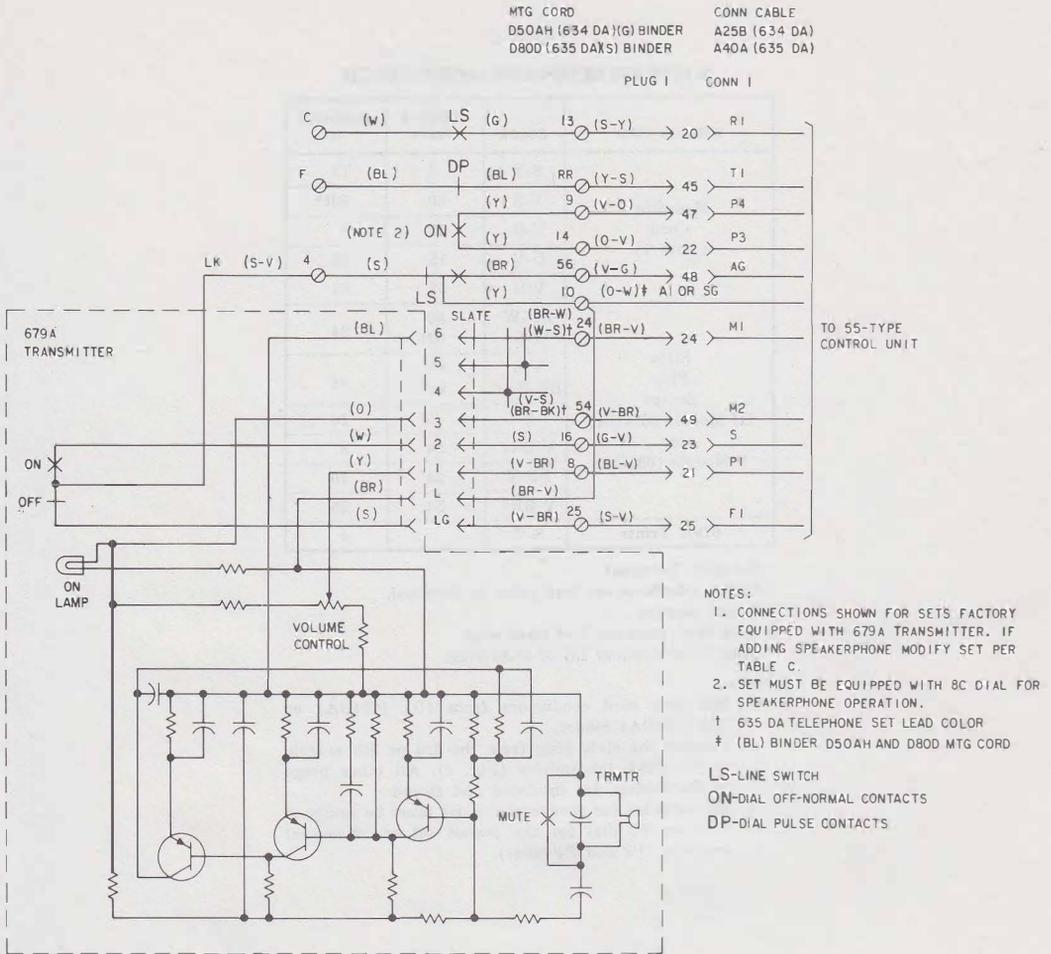

Fig. 4—3-Type Speakerphone Connections
1. Mounting cord conductors from (G) (634DA) or (S) (635DA) binder.
2. Connect the slate plug from the 3rd or 5th module to the 679A transmitter (Fig. 4). All other plugs in the module are insulated and stored.